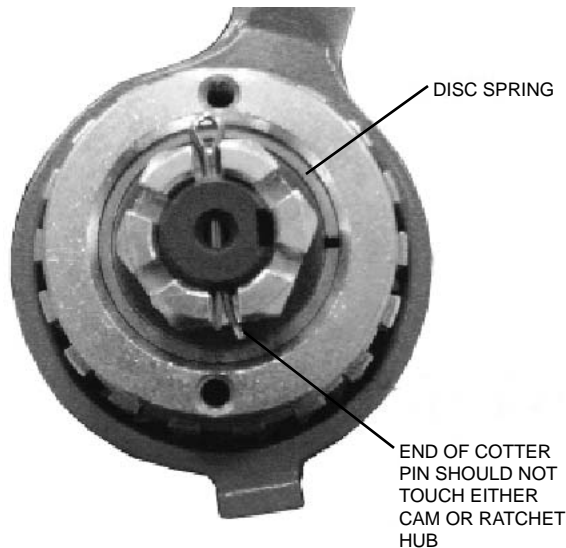

Figure 10. Brake Nut Cotter Pin Assembly
- G. Turn Lever Ratchet Hub clockwise until vertical ends (shoulders) of the helical surfaces of lever ratchet hub and brake cam are in contact. Place the disc spring on the brake cam with the large end against the brake cam. Assemble brake adjusting nut to shaft and tighten nut until snug. Then continue to tighten nut at least one but no more than two slots in order to align hole in shaft with slot in nut. Insert the cotter pin and bend the ends of same as shown in Fig. 10.